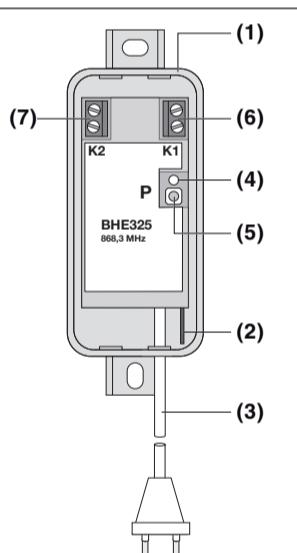

Fig. 2
2.2 Ontvanger BHE325 (fig. 2)
2.2 Receptor BHE325 (fig. 2)
2.2 Ricevitore BHE 325 (Fig. 2)